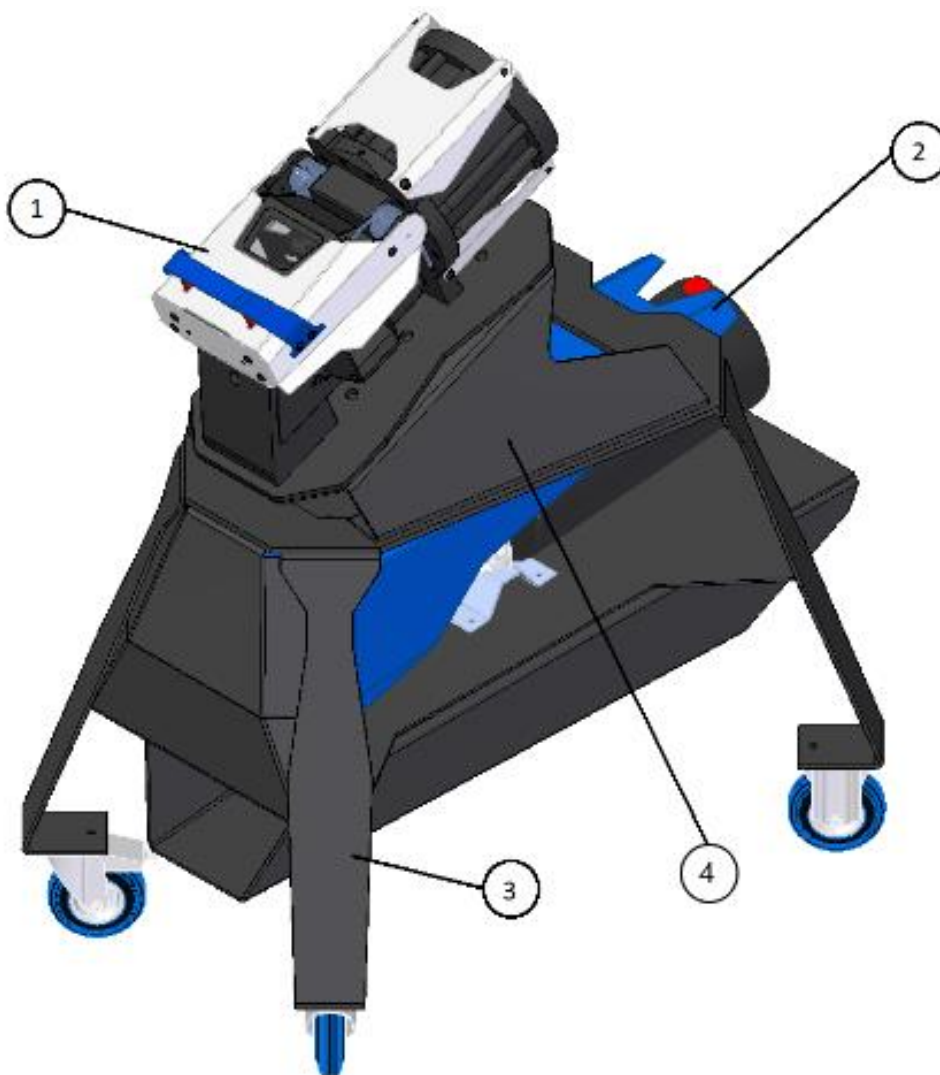

Figure 8: Mobile chain cutter
Figure 8 shows the mobile chain cutter. The components are equivalent to the stationary version, with the exception of the chassis (3) and the slanted mounting (4). However, the slanted mounting (4) can be ordered separately.